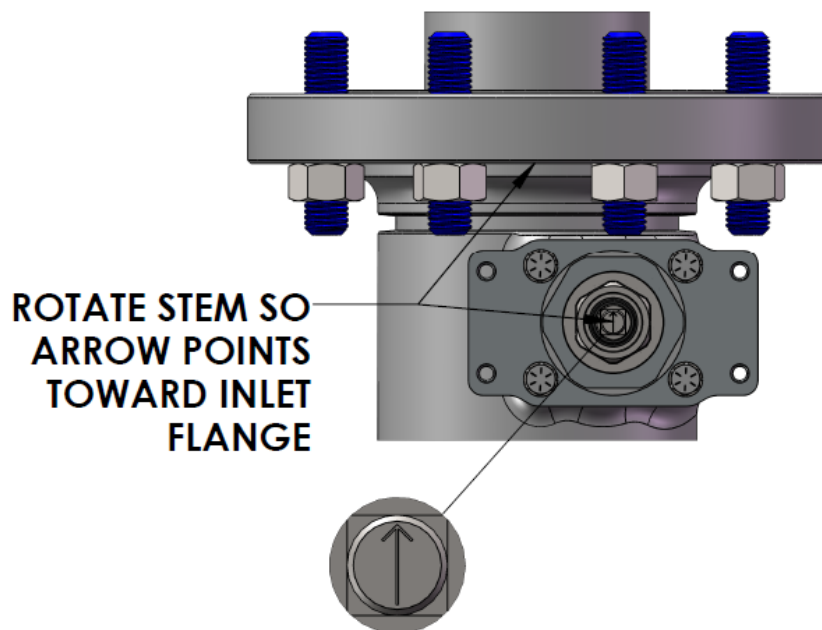
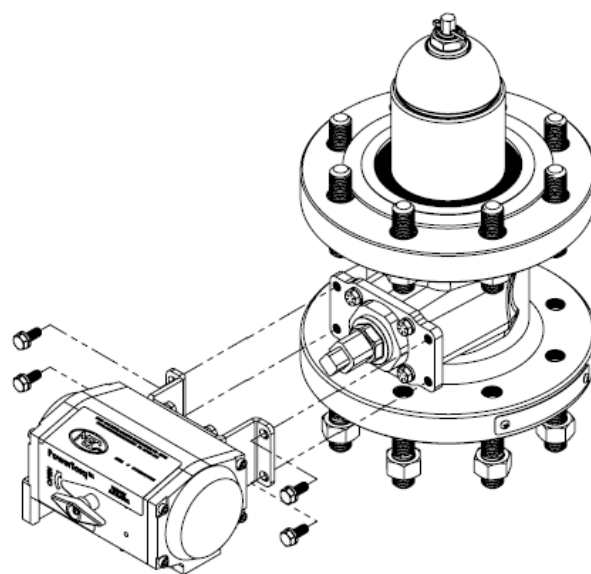

FIGURE 2B: ARROW ORIENTATION
FIGURE 2C: ACTUATOR ATTACHMENT
Rotate arrow on stem toward inlet flange, see figure 2B. Attach drive coupler onto stem. Install (4) washers onto (4) bolts. Install bent actuator bracket onto flat actuator bracket with bolt and washer, tighten, see figure 2C.